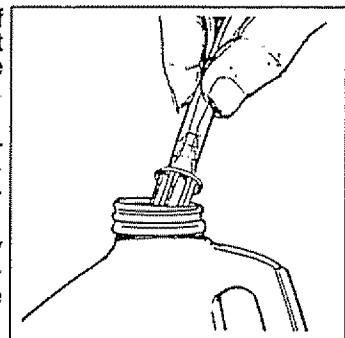

FIG. 11
- Place the small filter of the clear, detergent siphoning tube into the detergent container (Fig. 11).